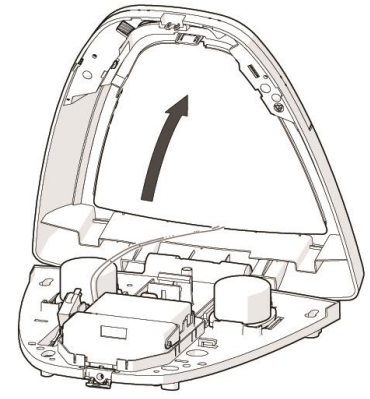

Figure 5
7. Pull the connection cables through the back plate of the sounder (see Figure 5).